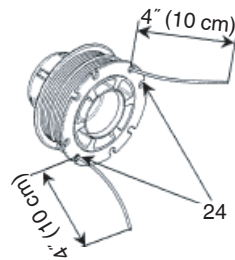

Fig. 28
- (4) Push each line into the stopper holes (24), leaving the loose ends approx. 4" (10 cm) in length. (Fig. 28)